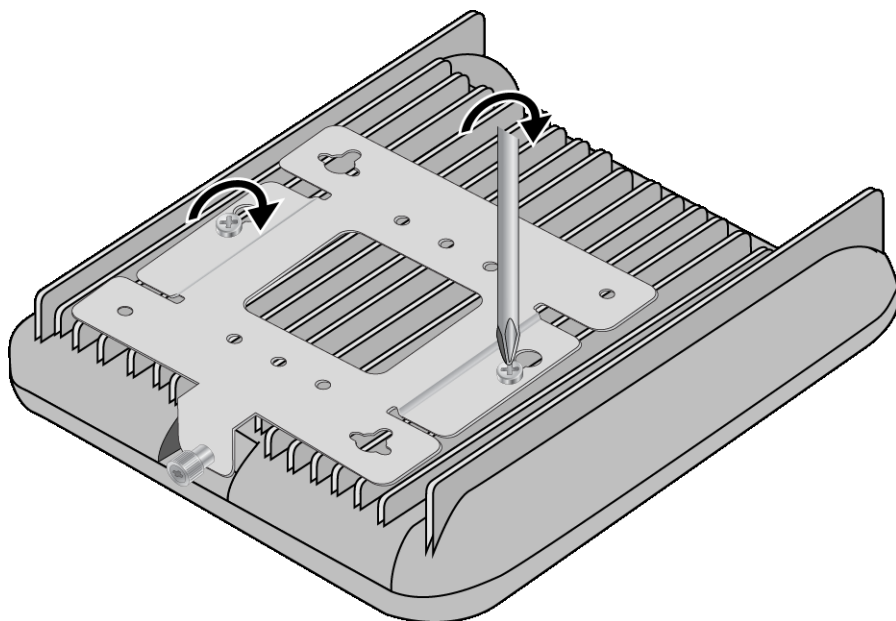

Figure 19. Adjusting the Screws on the Access Point
4. Tighten the screws so that they touch the wall mounting bracket, and then loosen them by approximately 1/4 turn. Refer to Figure 19.